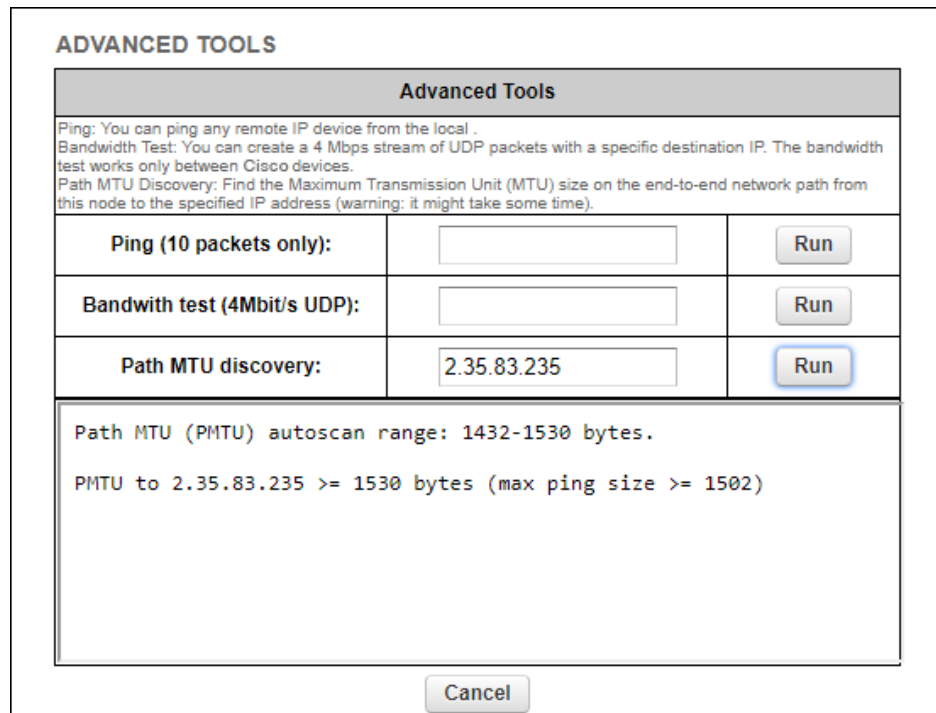

Figure 31. Advanced Tools window (Path MTU test tool)
2. Enter the IP address of the second unit in the **Path MTU discovery** field (Figure 31 \(page 100\)).